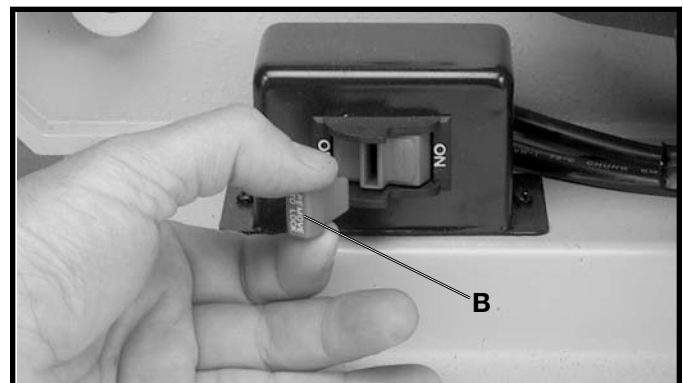

Fig. 22
IMPORTANT: When the machine is not in use, the switch should be locked in the “OFF” position to prevent unauthorized use. This can be done by grasping the switch toggle (B) and pulling it out of the switch, as shown in Fig. 22. With the switch toggle (B) removed, the switch will not operate. However, should the switch toggle be removed while the sander is running, it can be turned “OFF” once, but cannot be restarted without inserting the switch toggle (B).